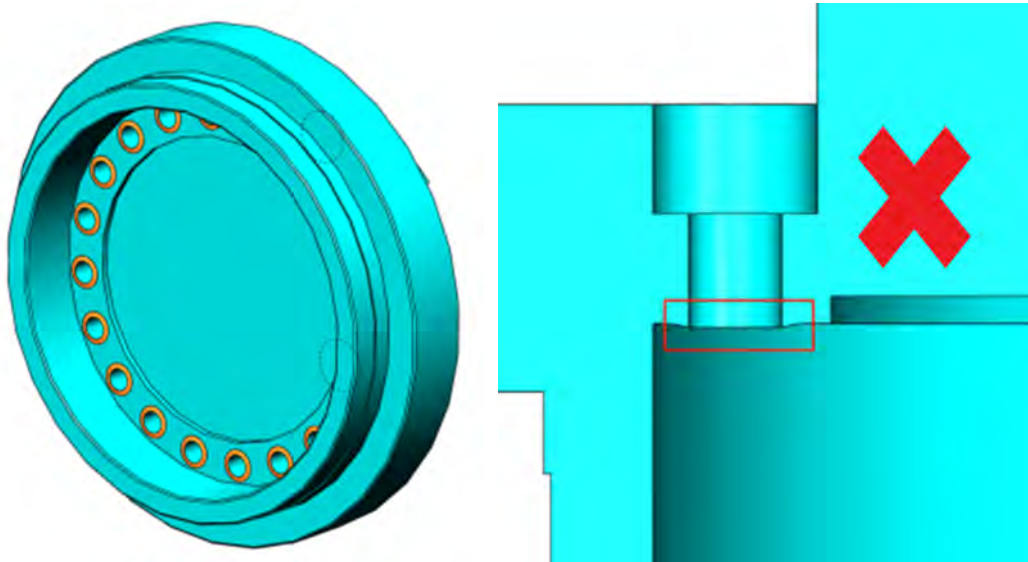

Figure 18-4 Flange Protrusion
- (3) Flange protrusion caused by drilling. As shown in Figure 18-4.